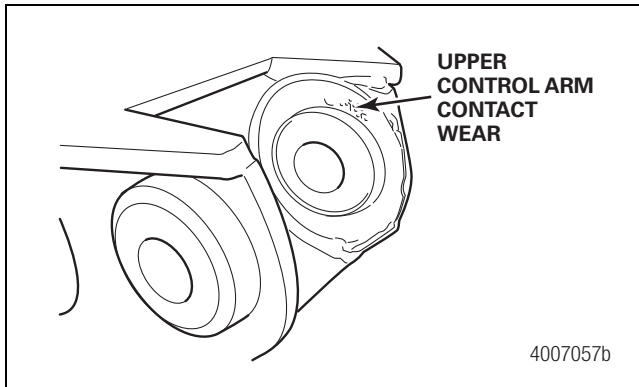

Figure 5
- A. Check the axle seat with the arm removed for evidence of contact with the upper control arm. Figure 5.